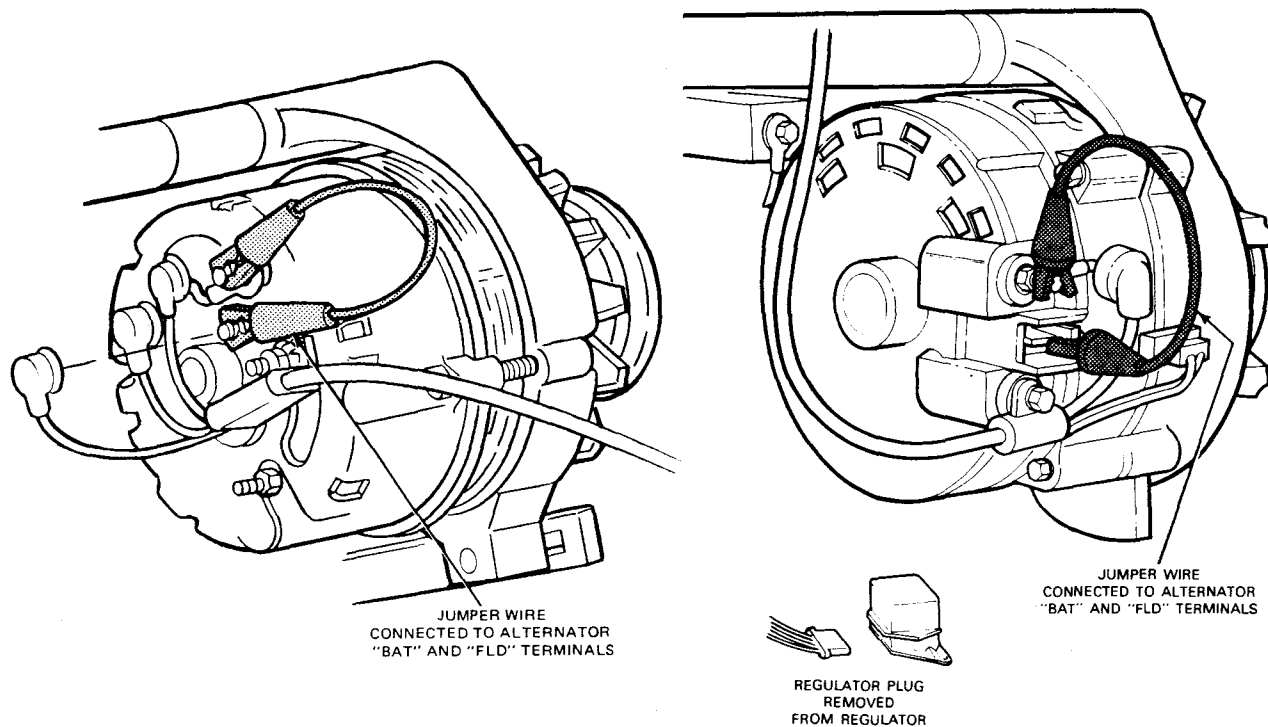

FIG. 13 Jumper Wire Connections
3. If the Voltmeter Test Procedure still indicates a problem (undervoltage), remove the jumper wire from the regulator plug and leave the plug disconnected from the regulator. Then, connect a jumper wire to the FLD and BAT terminals on the alternator (Fig. 13).